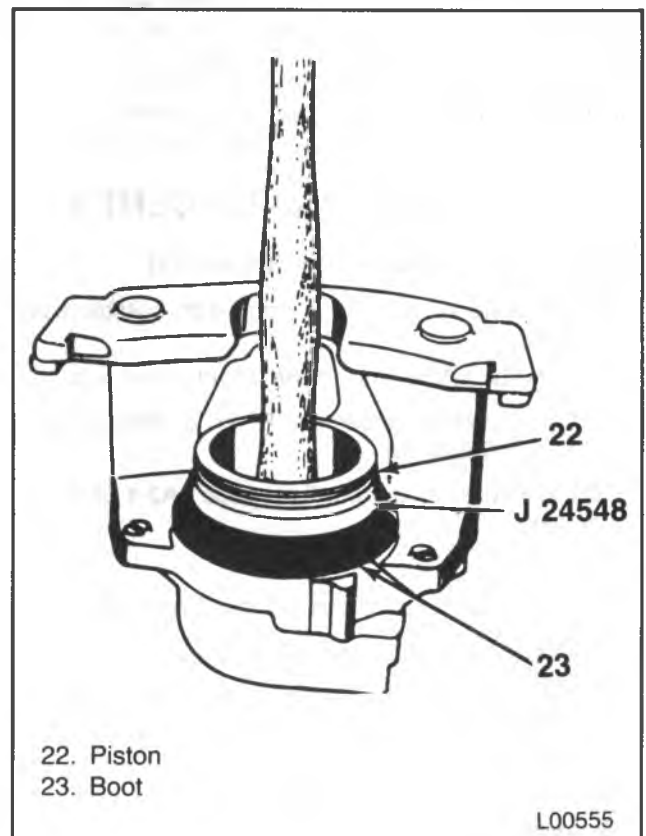

Figure 21 — Installing Caliper Piston
1. Piston seal (21).
2. Boot (23) on J 24548.
4. Piston (22) inside J 24548 (figure 21).
6. Bleeder valve (20).